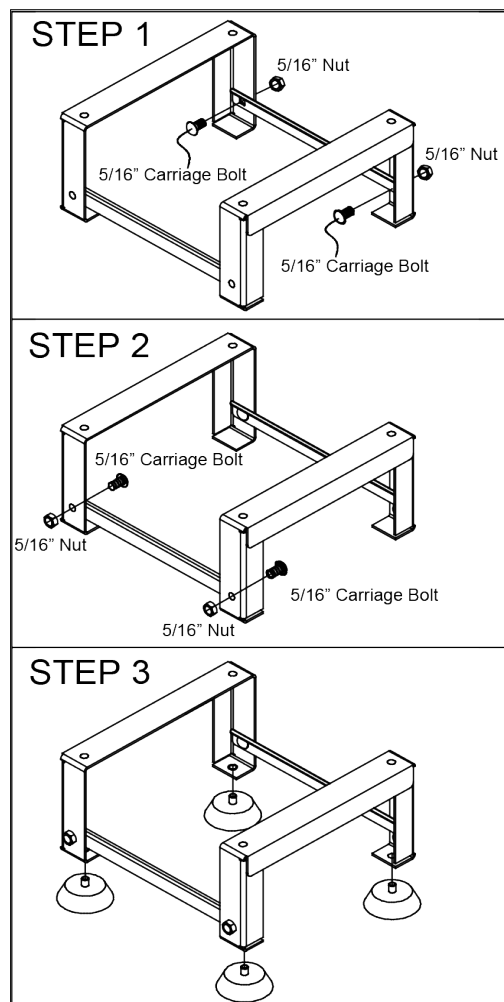

Figure 5 - Assembling the Water Heater Stand
1. Use a 5/16" socket and two (2) carriage bolts and nuts to connect a cross beam to two legs. See Figure 5, Step 1.
2. Use a 5/16" socket and two (2) carriage bolts and nuts to connect a cross beam to the other legs. See Figure 5, Step 2.
3. Lower the assembled stand onto the feet. See Figure 5, Step 3.